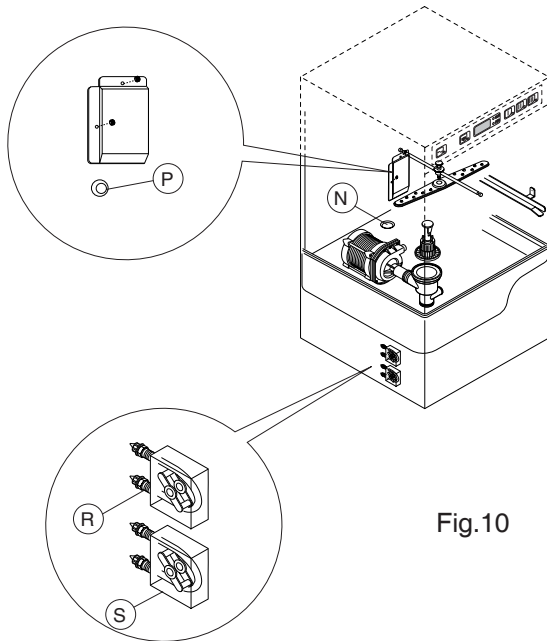

Fig. 10
1) Dishwasher with incorporated detergent dispenser pump (Fig. 10)
2) Dishwashers with incorporated peristaltic rinse-aid dispenser pump (Fig. 10)
Connections for automatic detergent dispenser (Fig. 10)
In the appliances with pressure boiler, the diaphragm dispenser pump may be manually activated by pressing screw "D" (Fig. 10).